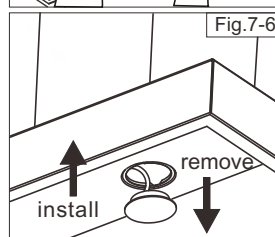

Fig.7-6
3. Re-install the new LED lamp. (Fig.7-6)